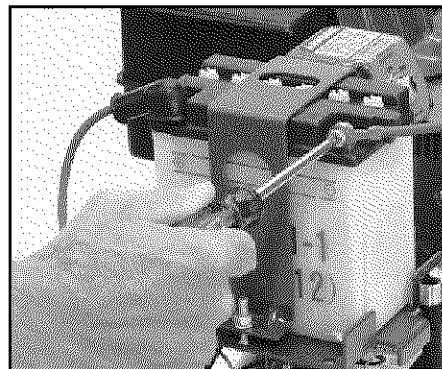

Figure 2-17: Attach negative (-) battery cable.
3. The negative battery cable is connected to the upper mounting screw that attaches the starter solenoid to the back of the battery post. This is the ground for the negative cable. Using the second screw and nut, attach the loose end of the cable to the negative (-) battery post. See Figure 2-17.